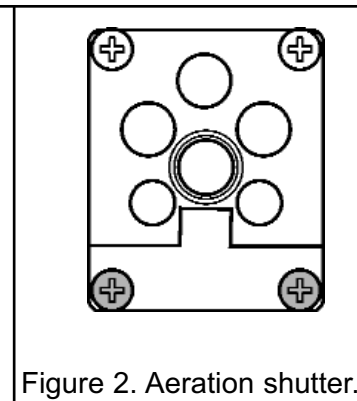

Figure 2. Aeration shutter.
3. Remove the shutter plate and from the end of the burner. To do this remove the lower two screws (See figure 2).